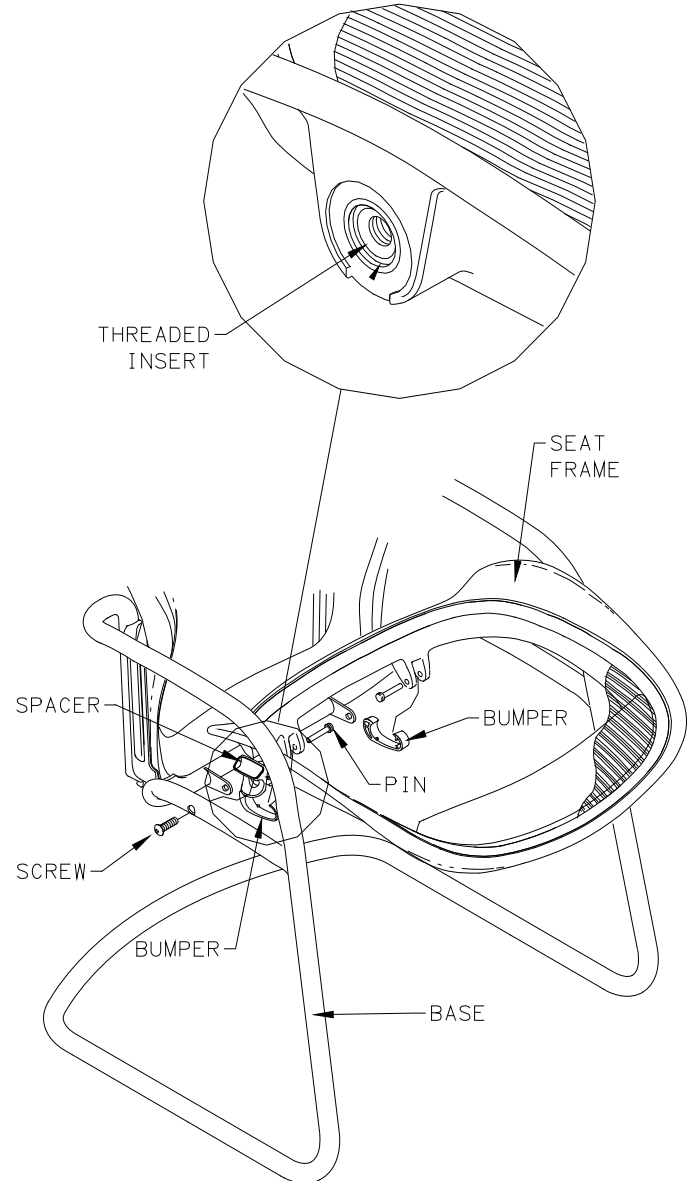

FIGURE 1
1. USING AWL AND HAMMER, DRIVE PINS FROM BASE HOLDING SEAT FRAME AND SET ASIDE. REMOVE BUMPERS FROM SEAT FRAME AND SET ASIDE. SEE FIGURE 1.
2. USING 6MM HEX BIT AND RATCHET WRENCH, REMOVE SCREWS FROM BASE. IF THREADED INSERT TURNS WITH SCREW, STOP IMMEDIATELY AND DO THE FOLLOWING STEP. TIGHTEN SCREWS INTO THREADED INSERT AS MUCH AS POSSIBLE. USING A QUICK JERKING MOTION WITH RATCHET WRENCH, BACKOUT SCREW FROM THREADED INSERT. IF THREADED INSERT STILL TURNS WITH SCREW, REPEAT. REMOVE SEAT AND SET ASIDE. SET ASIDE SPACERS. SEE FIGURE 1.
8. PLACE SEAT FRAME ALONG WITH SPACERS BETWEEN BASE AND SECURE WITH (2) SCREWS, USING 6MM HEX BIT AND RATCHET WRENCH. TORQUE SCREWS TO 180-200 IN LBS. SEE FIGURE 1.
9. USING HAMMER, DRIVE PINS INTO BASE THROUGH SEAT BRACKETS. SNAP BUMPERS IN PLACE OVER PINS. SEE FIGURE 1.